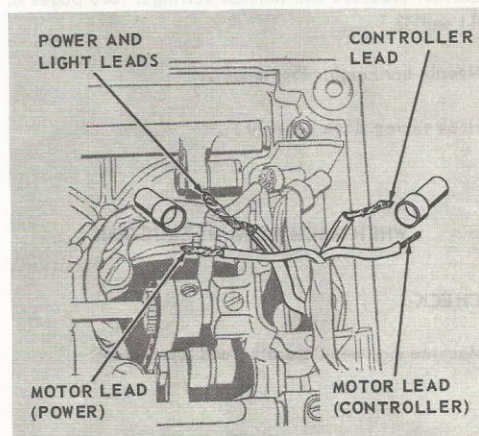

Fig. 52. Disconnecting Motor Leads
3. From bottom of machine, disconnect motor leads from controller and power leads as shown in Fig. 52.